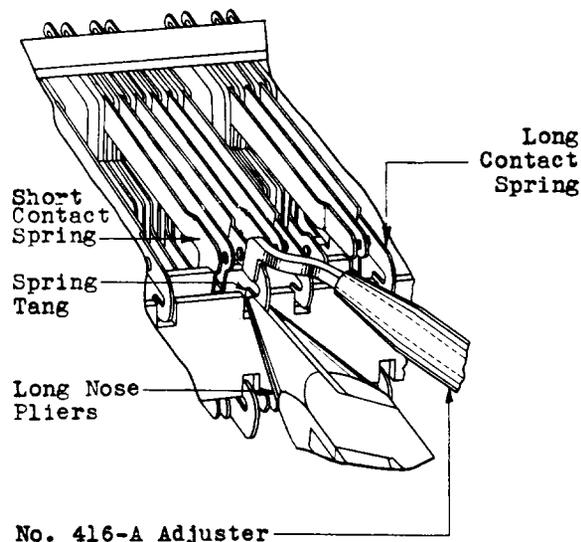
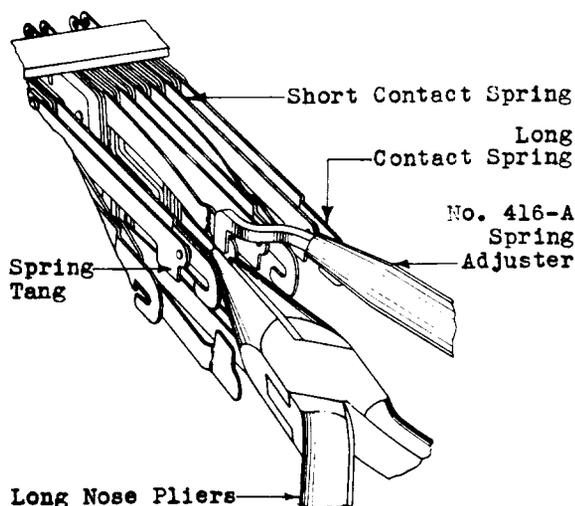

Fig. 9 - Method of Adjusting Spring Tang for Contact Separation and Tang Clearance
Fig. 10 - Method of Adjusting Short Spring Tang for Contact Separation
(1) Contact Alignment If the contacts do not line up properly, attempt to correct the trouble by applying pressure to the end of the springs, exercising care not to disturb or otherwise damage them. If the springs cannot be shifted in this manner, remove the spring assembly at fault from the mounting plate as outlined in procedure 3.03. Loosen the spring assembly screws with the 4" regular screw-driver sufficiently to shift the springs so as to correct the fault. Tighten the screws securely and replace the spring assembly on the mounting plate.
(2) When individual spring tangs do not have the proper engagement, shift the spring at fault in the spring assembly as covered in (1), taking care not to alter the adjustment for contact alignment.
(3) If individual tangs do not have the required clearance from the back stop bar, adjust the tang in the spring at fault using the long nose pliers, while holding the spring with the No. 416-A adjuster as shown in Fig. 9. Recheck the spring tension and contact separation requirements and readjust, if necessary.
(2) If it is found that failure to meet the contact separation is limited to a few individual cases, check and if necessary readjust for the spring tension of the springs involved. If this does not remedy the fault, adjust the tang of the spring at fault with the long-nose pliers, holding the contact spring with the No. 416-A adjuster as shown in Fig. 9 or Fig. 10. In the case of break-make (transfer) spring combinations check that after the spring is adjusted, approximately the same distance exists between the back stop bar, and the back and front contacts, when the switch is in the unoperated and operated positions, respectively. In the case of the short springs of make-make combinations, it is first necessary to determine approximately the amount of adjustment necessary and remove the back stop strip and draw bar strip as outlined in procedure 3.03 before adjusting the spring tang. After any spring tang has been adjusted, recheck the spring tension and readjust, if necessary.